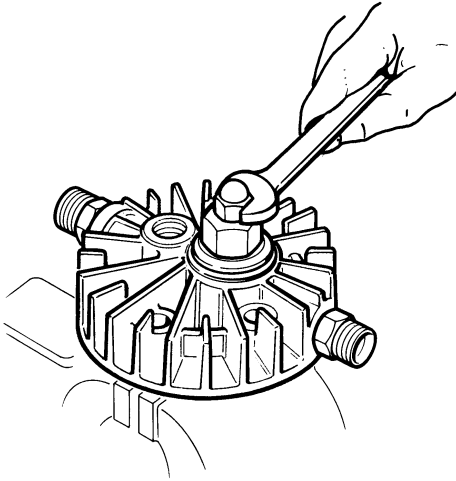
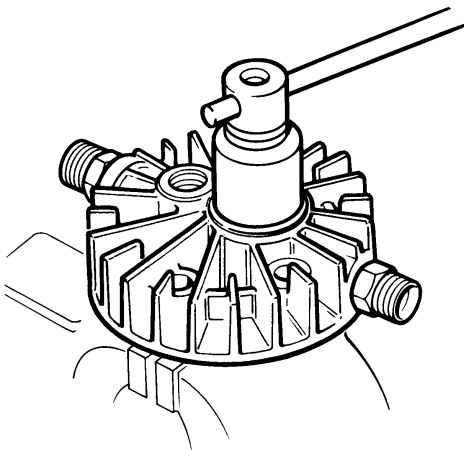

Fig. 9 Unscrewing the cap nut
Fig. 10 Removing the screw-in pressure plug
- Unscrew the cap nut (1) (see Fig. 9).
- Unscrew stud (2) approx. 5 turns.
- Unscrew screw-in pressure plug (3), see Fig. 10. Take out the pressure valve parts.
- Check O-ring (4), replace if necessary.